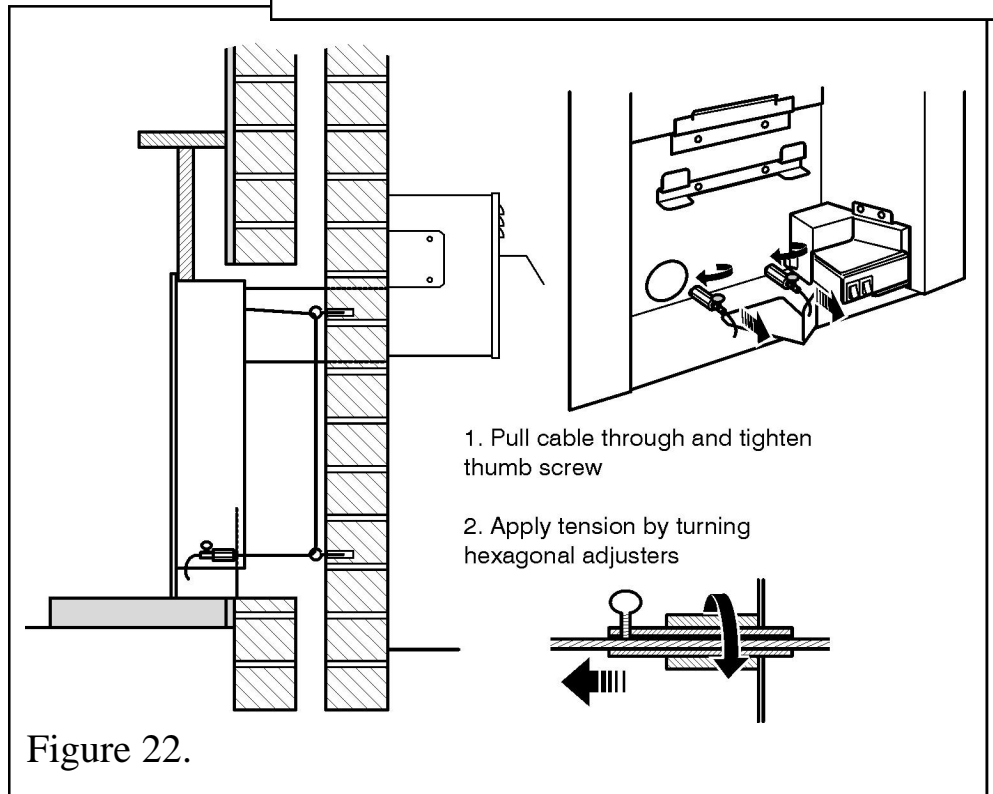

Figure 22.
5. Assemble adjusters and tension as in figure 22.